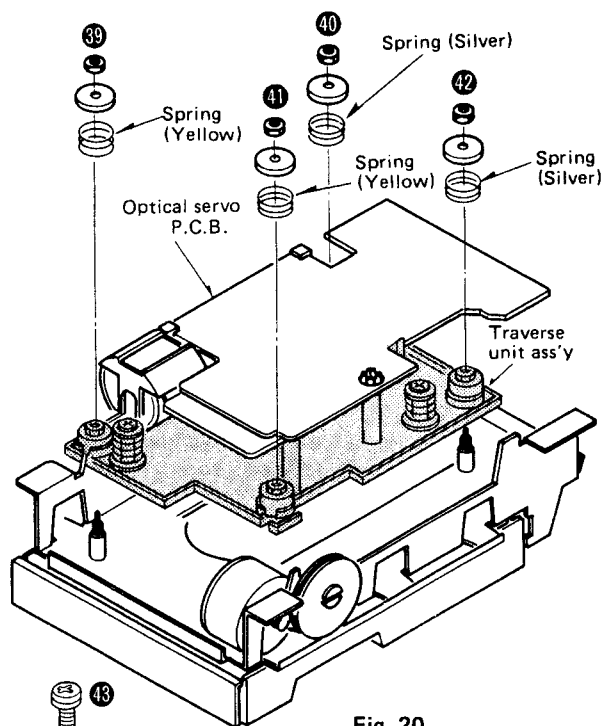

Fig. 20
4. Turn over the traverse unit and remove the nuts [Fig. 20 : ③⑨ ~ ④②], then the traverse unit ass'y can be removed.